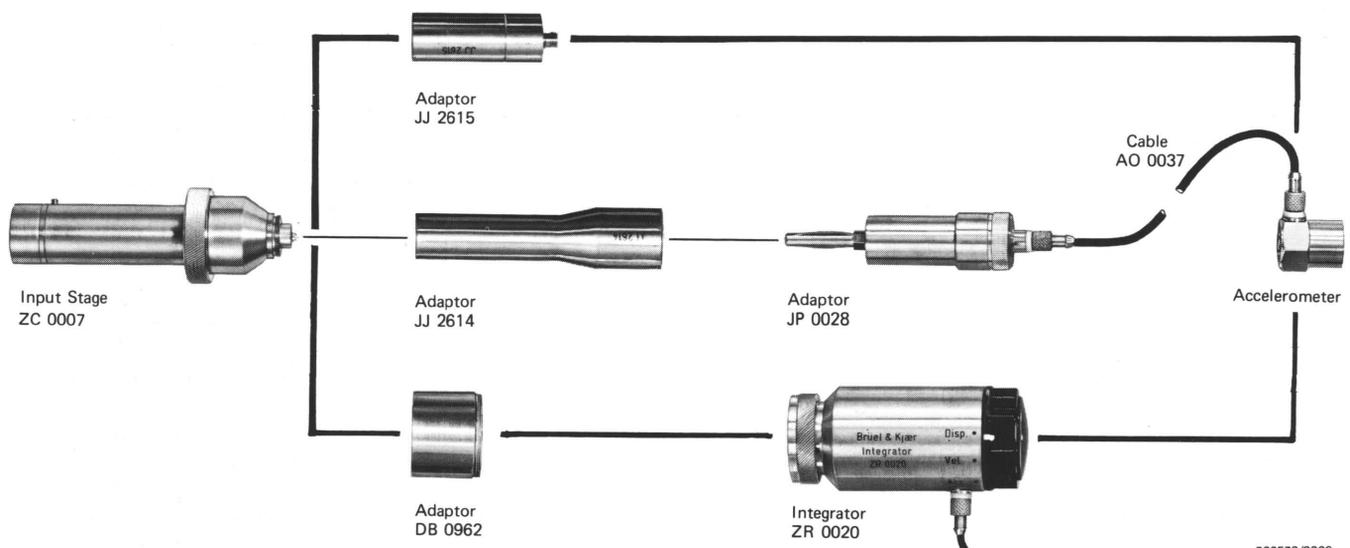

Fig.3.3. Connection of accelerometer
The Sound Level Meter Type 2209 may also be used to measure vibration levels by using one of the adaptors or the Integrator ZR 0020, shown in Fig.3.3. Full details of the ZR 0020 may be found on its Product Data Sheet. Using the adaptors, acceleration only can be measured; if the Integrator is used, acceleration, velocity, and displacement are all available. With the METER SCALE turned to its "Vibration Meter" side, and the correct ATTENUATOR SCALE inserted, acceleration (and velocity and displacement if the ZR 0020 is used) may be read directly from the instrument in vibration units ( $\text{ms}^{-2}$ ,  $\text{ms}^{-1}$ , m, in metric units or g, in  $\text{s}^{-1}$ , in, in Imperial units). This is described in sections 3.5.2, 3.5.3, and 3.6.2.
4. Mount the accelerometer on the 4291 (see the 4291 Instruction Manual), and connect it to the 2209 using one of the methods shown in Fig.3.3. If an Integrator is used, set it to the required position ("Acc.", "Vel.", or "Disp.").
4. Connect the accelerometer to the 2209 using one of the methods shown in Fig.3.3. If an Integrator is used, set it to the required position ("Acc.", "Vel.", or "Disp.").